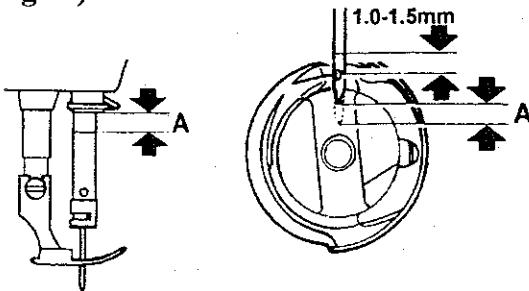
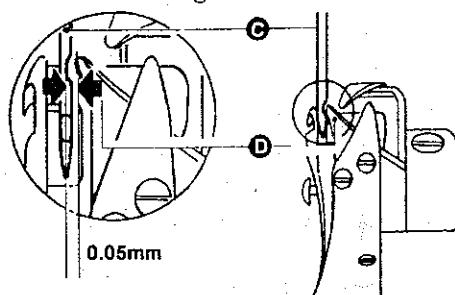

Fig. 15
Fig. 16
When the needle bar is raised from its lowest position the gap should equal that illustrated by (A) in Fig. 15. The hook point (D, Fig. 16) of the bobbin should align with the center line of the needle and be 1-1.5 mm above upper end of the needle eye (Fig 15).
The clearance between the bottom of the needle notch and the hook point should be approximately 0.05 mm (Fig. 16).